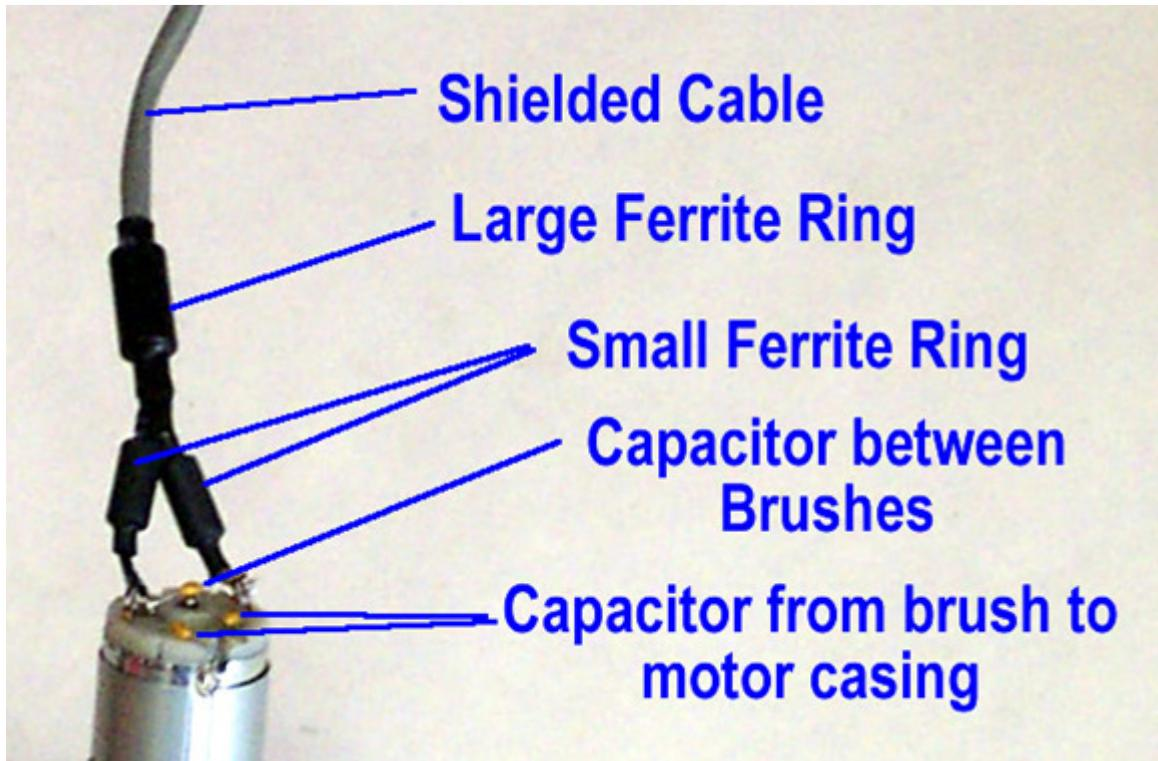

Figure 1: Gear Motor Wiring
2. Scratch a spot on the motor between the two terminals as shown. Using soldering iron apply some solder. Then solder the twisted end of the two capacitors to the spot on the motor case as shown in Figure 1. You may need to use a high power soldering gun or torch to heat up the motor casing and ensure you get good adhesion.